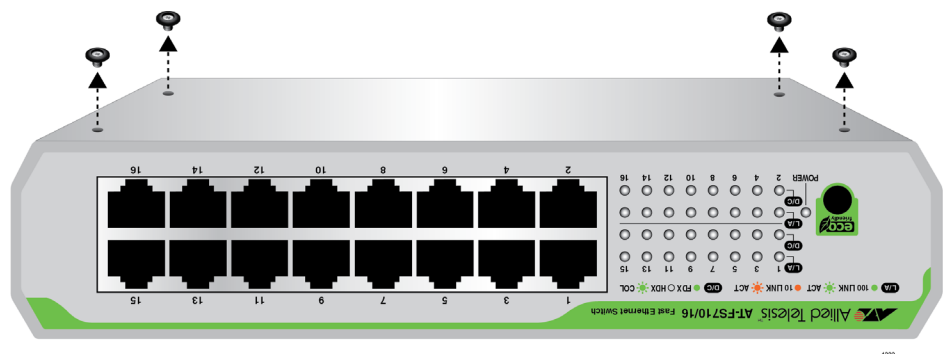

Figure 22. Removing FS710 Series Rubber Feet
2. Turn the switch upside down and remove the rubber feet by removing the attaching screws. See Figure 22.